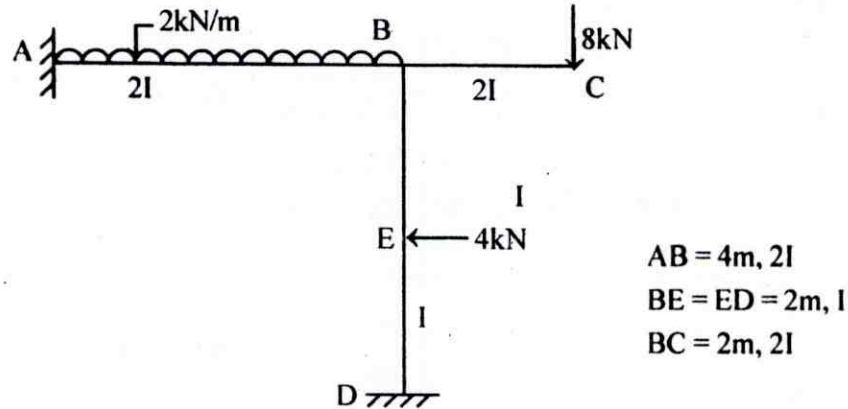

Fig. 2
1. Analyze the rigid frame shown in fig. 2 using slope-deflection method. Draw the BMD. (16)